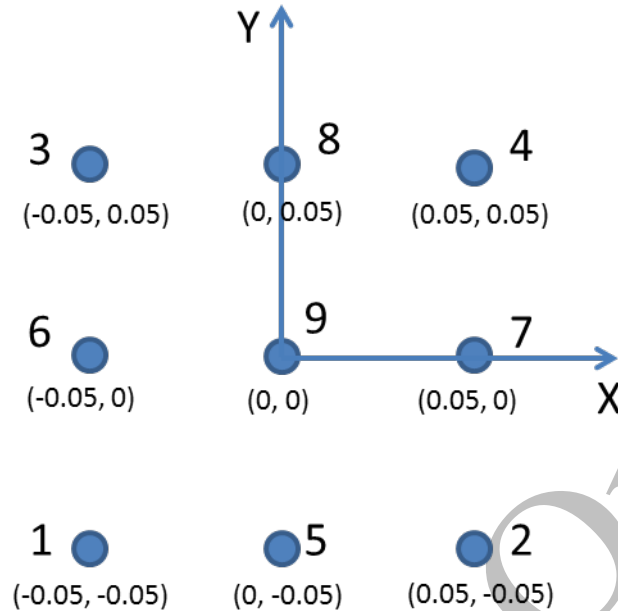
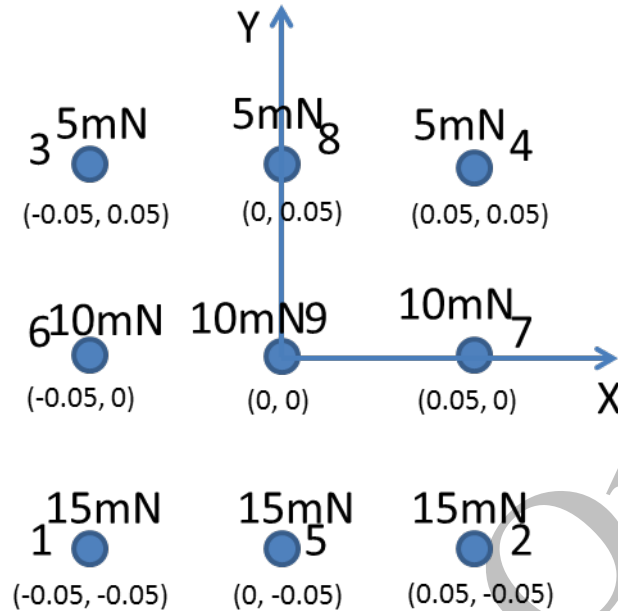

Figure 7: Movement pattern for Multiple_Indent_Trapezoidal_VEX_OM.cts
Figure 15: Indentation grid with the new loads programmed above.
This script creates a 3x3 grid of indents, using the movement pattern shown in Figure 7.
1. This will make a 3x3 grid with the top row having 5mN indents, the middle row 10mN indents and the bottom row having 15mN indents (see Figure 7 for explanation and Figure 15 for the new load settings).
Table 1: Coordinates for the spacing shown in Figure 15 (mm).